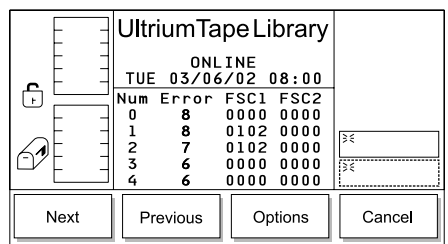

Figure 134. Drive Log Dialog
1. Specify the drive that you want by performing steps 1 through 5 in “Viewing the Drive’s Error Log” on page 122. The Drive Log Dialog displays (see Figure 134).